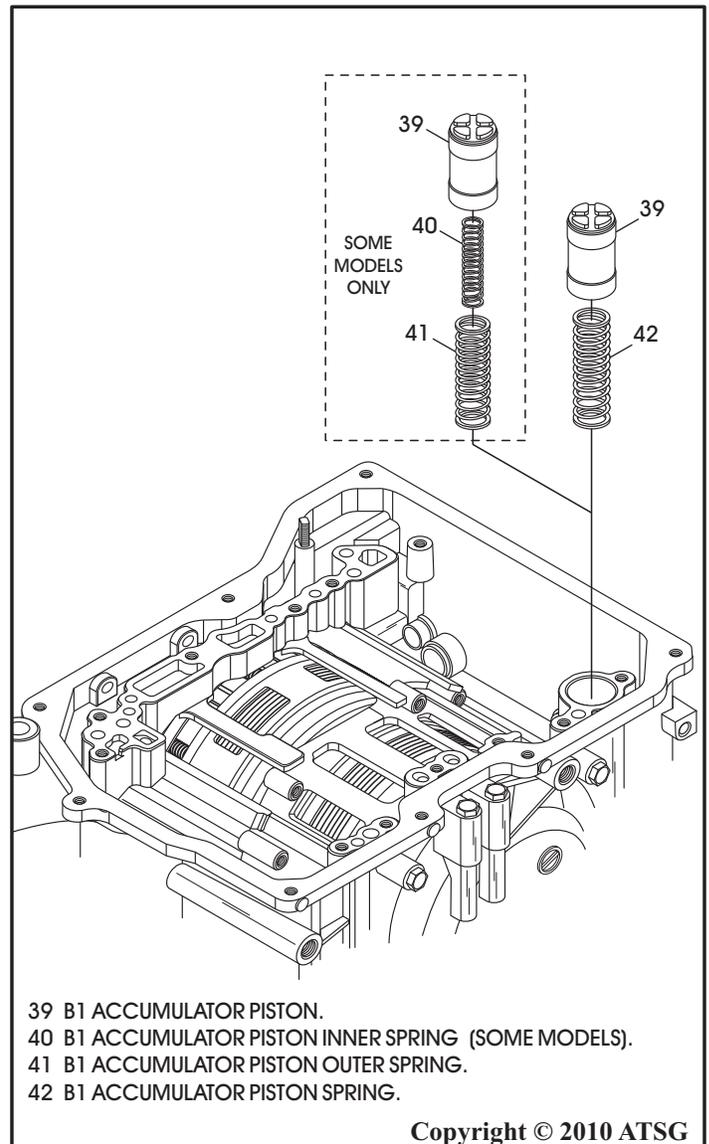

Figure 198
72. Install the B1 accumulator springs and piston into the case as shown in Figure 198.